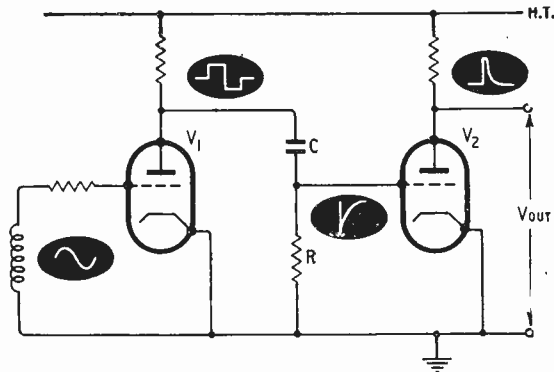
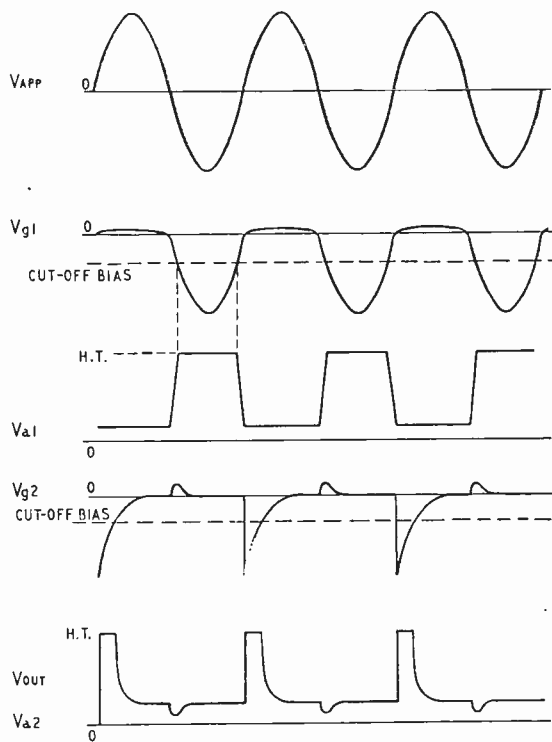

Fig. 7.
Fig. 8.
**Short Pulses from a Sine Wave.**—It is possible for a distorting amplifier followed by a stage of bias differentiation (Fig. 7) to convert a sine wave into a narrow square-topped trigger or sync pulse. This is illustrated in Fig. 8.